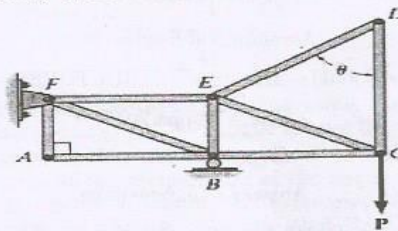

Figure 1
11. (a) A planar truss is given in Figure 1. Find the axial force in members CB and CE. Identify the four zero-force members. (13)